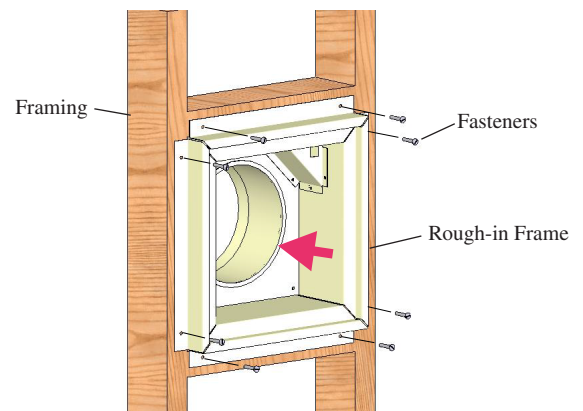

Figure 13a. Securing the Power Vent Rough-in Kit.
Step 2: Insert the Power Vent Rough-in Kit and secure in place, see **Figure 13a.**
Step 3: Remove the bottom collar and conduit mounting frame, see **Figure 13a.** Set removed hardware aside until needed for reassembly.